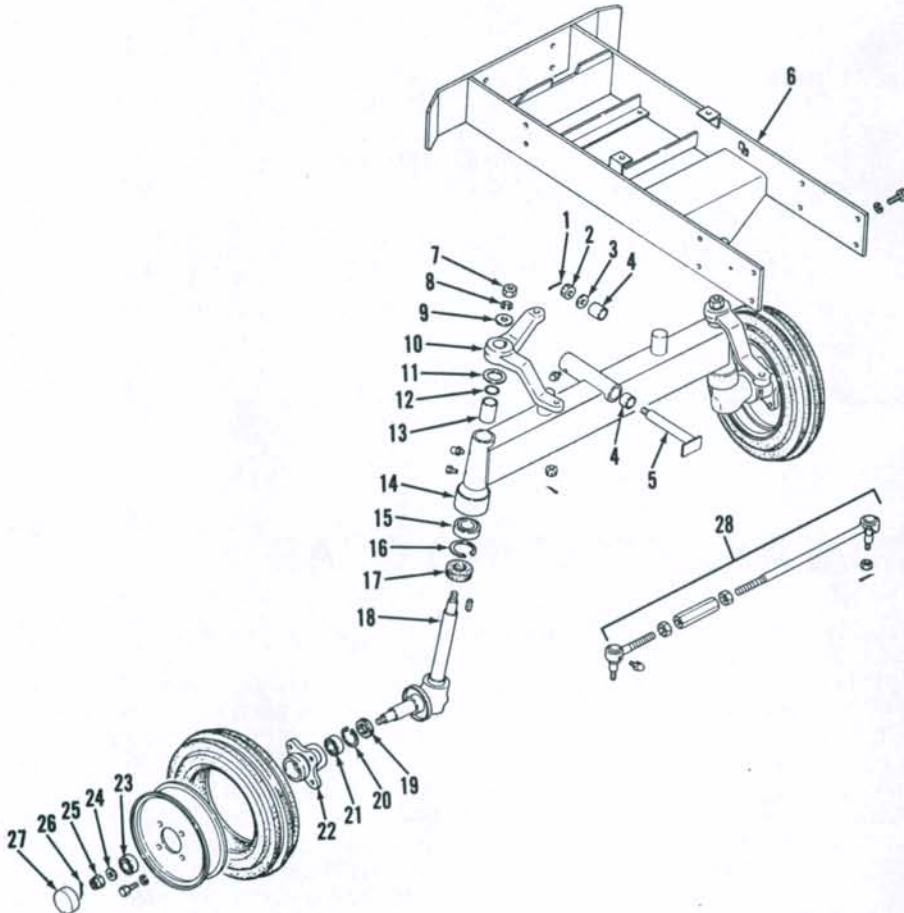
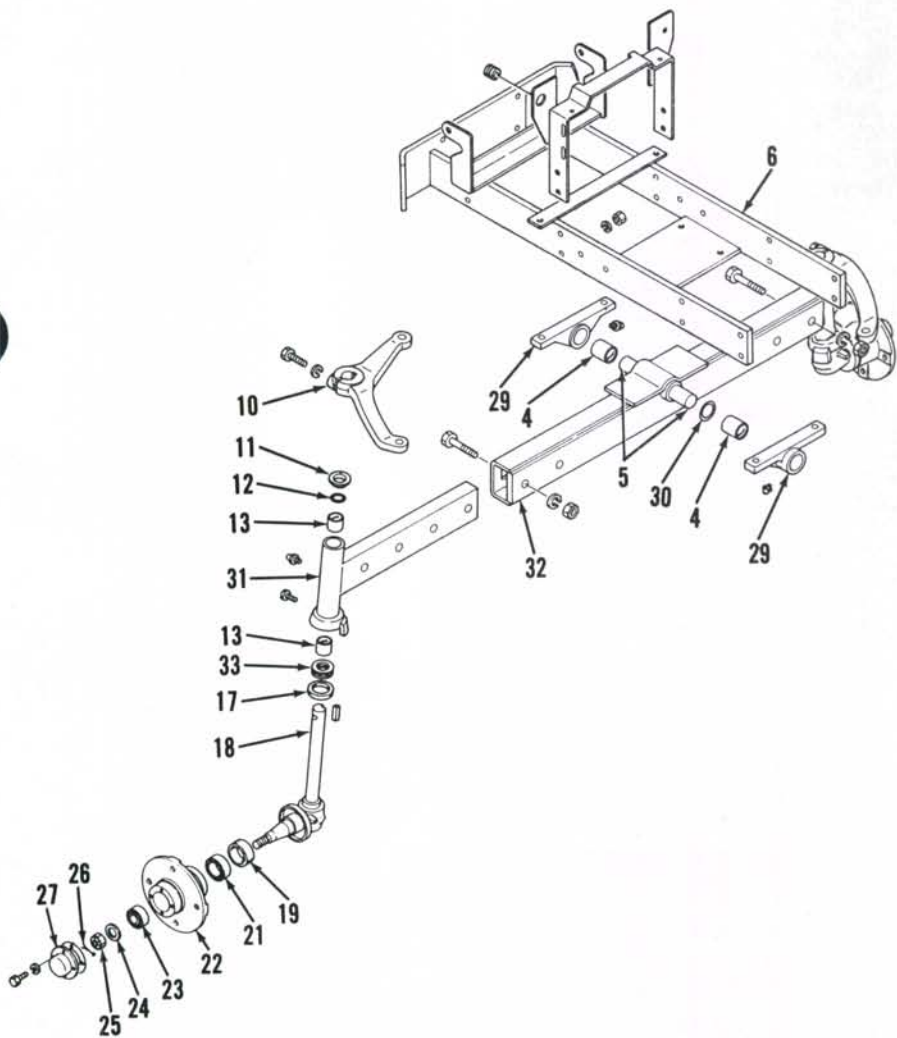

Fig. 1 - Exploded view of non-adjustable front axle used on YM155 models. Axle used on YM135 is similar.
Fig. 2A—Exploded view of adjustable axle available for YM195 and YM240 models. Except for adjustable width feature, heavy duty non-adjustable axle is similar.
1. **ADJUSTMENT.** Refer to appropriate Fig. 1, 2, 2A or 3 for exploded view of fixed or adjustable tread non-driving axle. Toe-in should be 4-8 mm (5/32-5/16 in.) for all models. Length of drag link should be adjusted to provide equally sharp turns in both directions.
Front axle should not have excessive front to rear clearance at pivot shaft (5). Excessive clearance can be removed from YM195 and YM240 models by relocating brackets (29-Fig. 2) closer together. Be sure all attaching screws are retightened after adjustment is complete. On all other models, adjust axle play at pivot by tightening the castle nut (2-Fig. 1 or 3) on pivot shaft. Be sure to
Support front of tractor and disconnect drag link from steering arm. On YM135 and YM155 models, remove cotter pin and castle nut (2-Fig. 1) from axle pivot shaft, support axle with jack, then remove washer (3) and pivot shaft (5). On YM195 and YM240 models, support axle with jack, unbolt pivot brackets (29-Fig. 2 or 2A) from frame, then
When assembling YM135 model, castle nut (2-Fig. 1) should be toward rear. On YM155 model, castle nut is toward front. Bushings (4) are 25 mm (0.984 in.) long for YM135 models; 24 mm (0.945 in.) long for YM155 models. Tighten castle nut (2) on YM135 and YM155 models enough to remove all axle play; however, axle should move smoothly and freely on pivot.
3. **OVERHAUL.** The steering spindle (18-Fig. 1, 2, 2A and 3) is equipped with renewable bushings (13) and some
models are equipped with bearings (15 and 33). Inside diameter of bushings (13) should be sufficient to provide correct clearance for the spindle. Adjust spindle end play by adding covers (11 - Fig. 1, 2 or 2A) or shims (40 - Fig. 3) as required.
Fig. 2 - Exploded view of standard non-adjustable front axle used on some YM195 and YM240 models. Refer to Fig. 1 for wheel hub and bearings. Refer to Fig. 2A for optional adjustable axle and heavy duty axle.